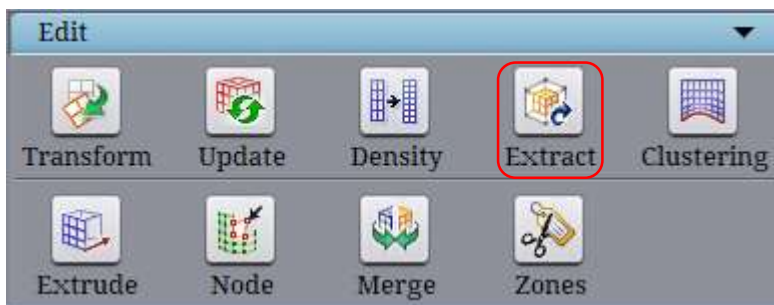

Figure 5.24: Edit Section
**Transform** is a transformation tool that can translate, rotate, mirror or scale the current grid in the UI. It can be found in the **Edit** section of the **Grid** tab, as shown in Figure 5.24. Like the Transform button in the topology tab, the Grid tab transform button also has separate buttons for each transformation option, such as translate, rotate, mirror and scale. Apart from this, it also has a separate button called General. Let us have a look at the buttons one by one.